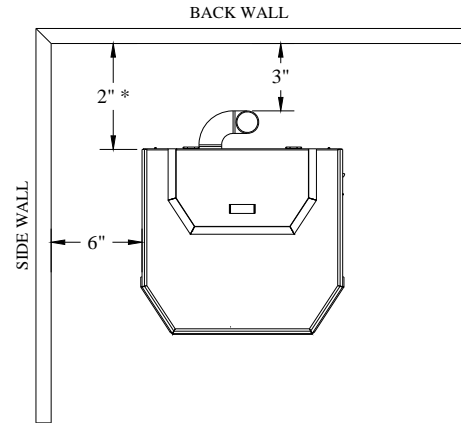

Figure 1
The HYBRID-35 has been tested and listed for installation in regular and mobile homes.(refer figure 1 & 2)
1. Position stove, adhering to clearances shown in Figures 1 & 2.